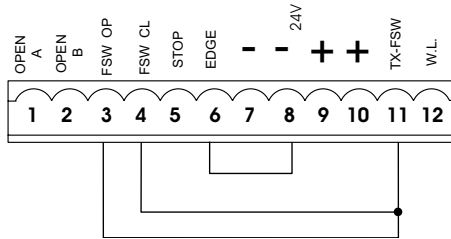

Fig. 5
N.B: If safety devices are not used, jumper connect the terminals as shown in fig. 5.
NB.: If no opening safety devices are connected, jumper connect inputs OP and -TX FSW (fig. 5).
NB.: If no closing safety devices are connected, jumper connect terminals CL and -TX FSW (fig. 5).
NB.: If edge safety devices are not connected, jumper connect the EDGE and - inputs. (fig. 5).